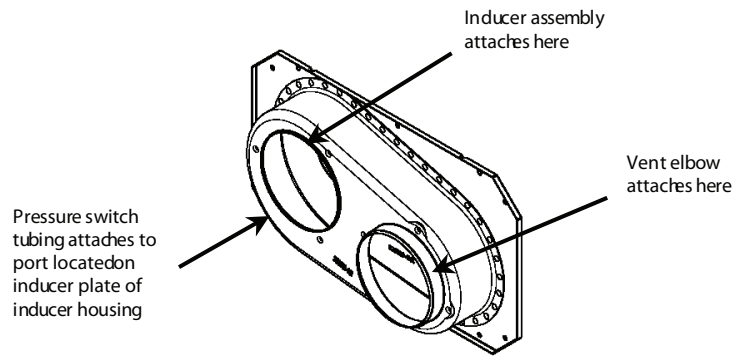

Fig. 2 - Front View of Inducer Housing
5. Place new inducer motor gasket provided in kit around flange on inducer housing (See Fig. 2).